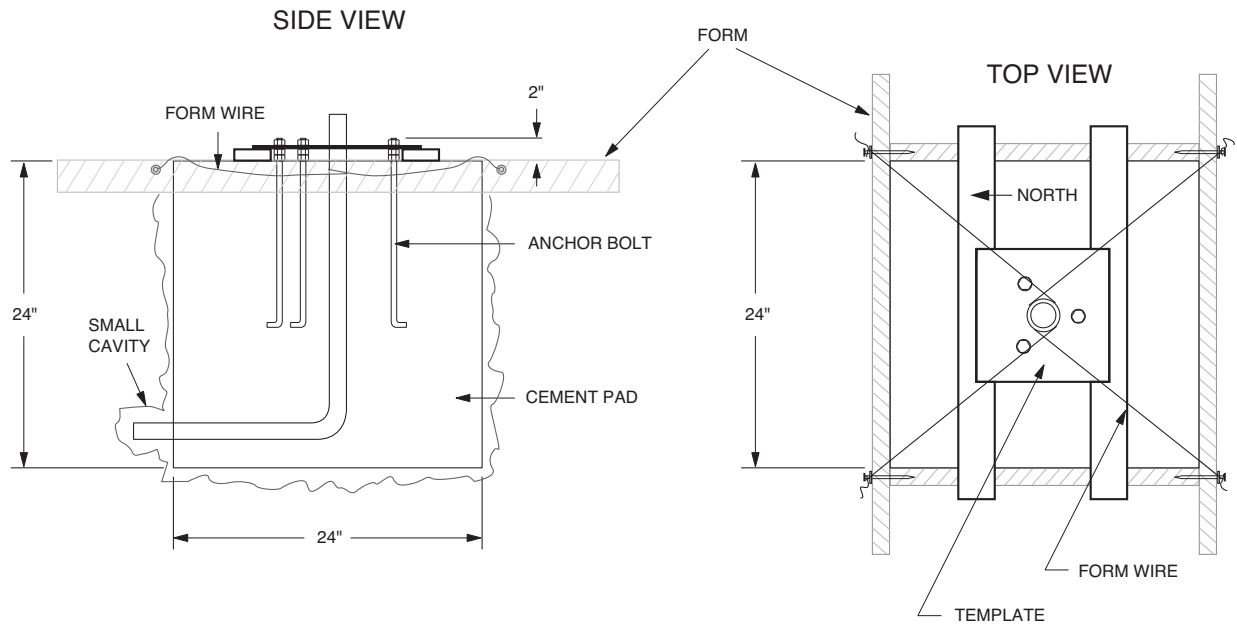

FIGURE 2.1-2. ET Tower Base Installation
1. The ET Tower attaches to a user supplied concrete foundation constructed as shown in Figure 2.1-2.